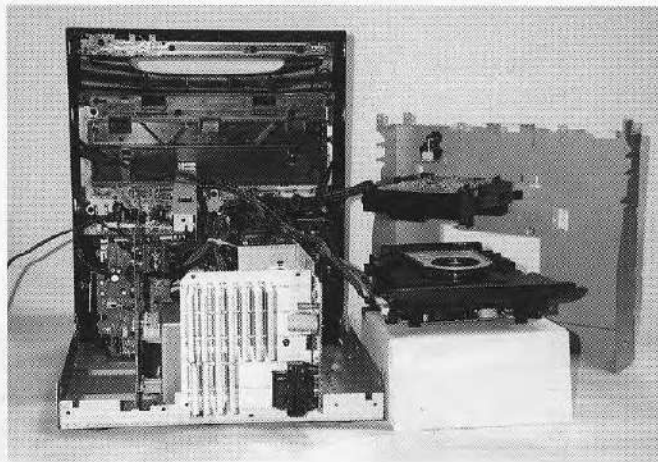

Figure 5
- 5) Remove the back panel in-order to service the power, transformer board or the AF & front board. Figure 5 show the possible service position.